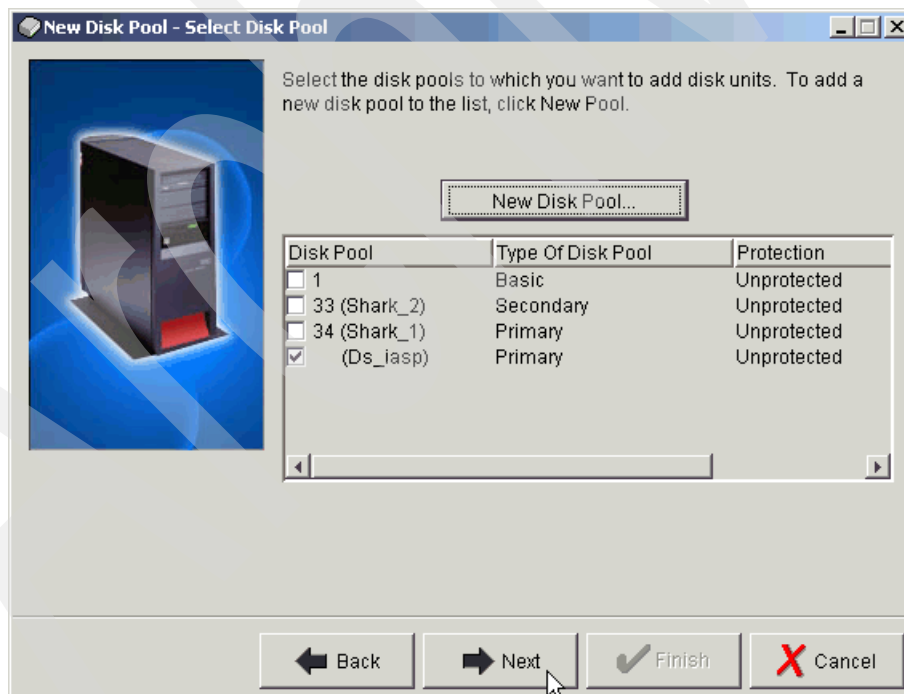

Figure 5-28 Confirming the disk pool configuration
7. The New Disk Pool - Select Disk Pool window (Figure 5-28) summarizes the disk pool configuration. Review the configuration and click **Next**.